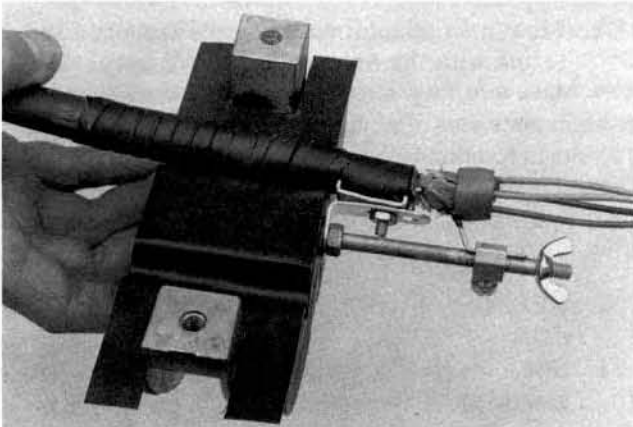

Figure 21
10.01 Select one of the cables that has been previously prepared with the Shield Connector bracket, stand off stud, and strength member ground clamp. Thread one of the wing nuts on the end of the stand off stud that is toward the splice until it bottoms out. Position the stud so that it may be threaded into the hole in the bottom end plate section and the cable will lay into the hole in the end plate. Figure 21. Be sure that the slot in the end plate for the torque bar is directed toward the splice. Loosen the strength member clamp and turn the wing nut clockwise until the stud and Shield Connector bracket have been securely tightened to the end plate. Tighten the strength member clamp. Tighten the lock nut where the stud threads into the end plate. Tighten the nut on the Shield Connector. Remove the wing nut from stand off stud.